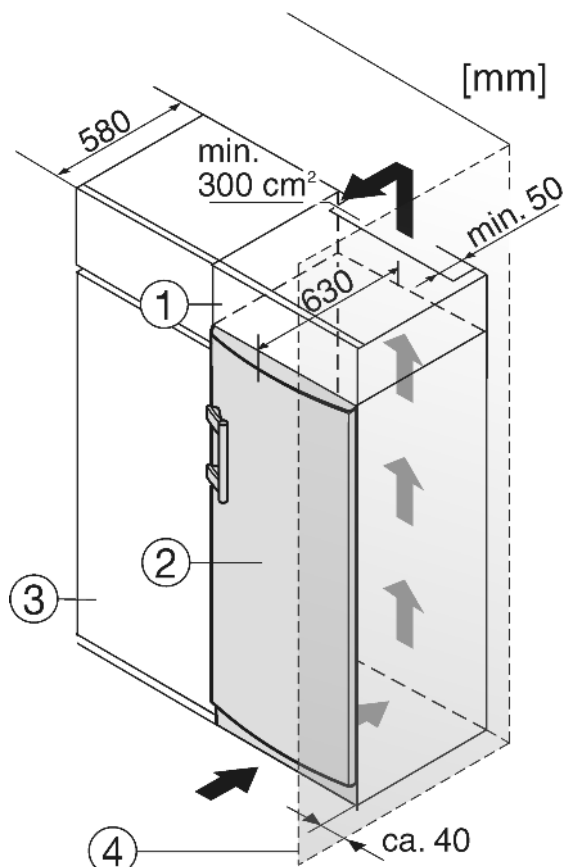

Fig. 11
- (1) Stack cabinet (3) Kitchen cabinet
(2) Appliance (4) Wall
The appliance can be inserted into a row of kitchen units. To match the appliance Fig. 11 (2) to the height of the row of units, a suitable stack cabinet Fig. 11 (1) can be fitted above the appliance.
When inserting the appliance into a row of kitchen units (max. depth 580 mm), the appliance can be installed directly next to the kitchen unit Fig. 11 (3). The appliance door projects relative to the front of the kitchen unit by 34 mm at the side and by 50 mm in the middle of the appliance. It can be opened and closed perfectly as a result.
If the appliance is installed with the hinges next to a wall Fig. 11 (4), the distance between appliance and wall has to be at least 40 mm. This corresponds to the projection of the handle when the door is open.